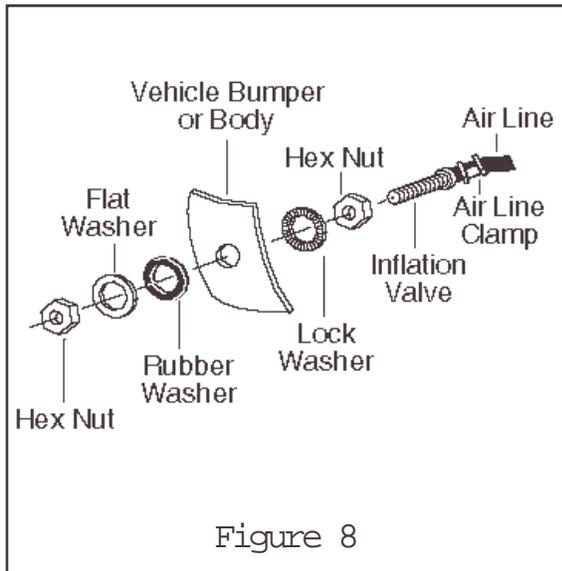

Figure 8
J. Drill a 5/16" hole for inflation valve and mount as in illustration (Rubber washer is for outside weather seal) (Figure 8).
G. Drill 5/16" hole for inflating valves and mount as illustrated (Rubber washer is for outside weather seal - Figure 8).